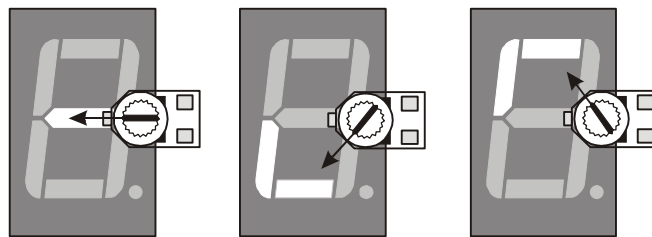

Figure 6-17
2. Modify DialDisplay.bs2 from Activity #4 so that it causes the 7-segment LED display to behave as shown in Figure 6-17. The image on the left shows how the 7-segment LED display should look when the potentiometer is centered, with only segment G emitting light. The middle image in Figure 6-17 shows segments E and D on. As the potentiometer is turned counterclockwise, segments E, D, and C turn on in sequence. The rightmost image in Figure 6-17 shows the potentiometer’s knob rotated clockwise of center with segments F and A on. When the potentiometer’s knob is turned clockwise (from center), segments F, A, and B should turn on in sequence.